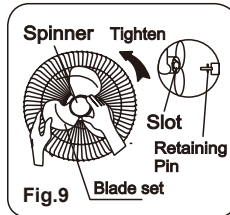

Fig.9
2. Mount the Blade set onto the motor shaft through the center hole in the Blade set. Insert the retaining pin on the motor shaft into the slots in the Blade set core. Insert the spinner onto the tip of the shaft and turn spinner counterclockwise to secure the Blade set in place. Fig.9.